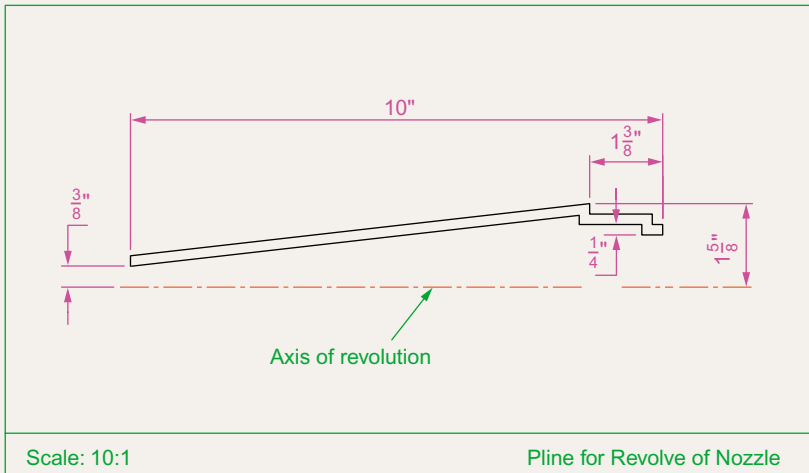

Fig. 12.48 Exercise 5
5. Fig. 12.48 shows the outline from which a solid of revolution can be constructed. Using the **Revolve** tool from the **Home/Create** panel to construct the solid of revolution.